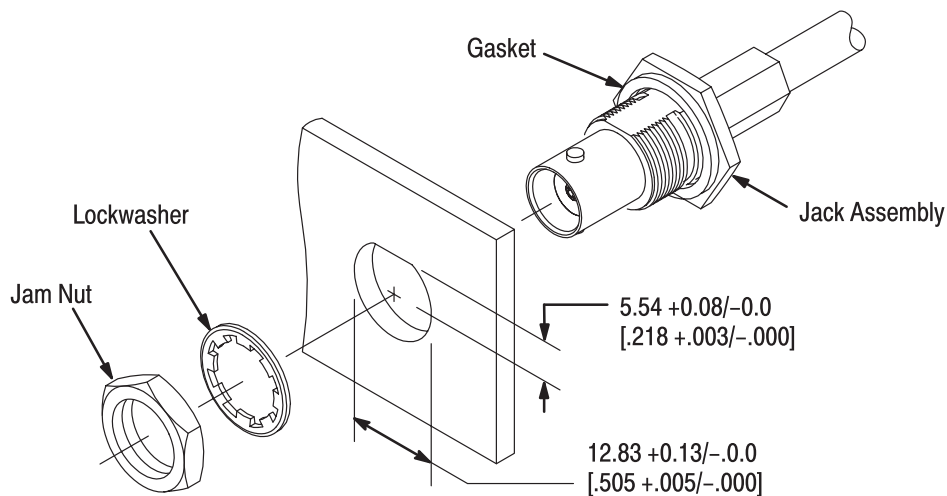

Figure 7
5. Make the panel cutout using the dimensions in Figure 7. Install gasket onto connector assembly; then insert connector through the cutout and secure it with the lockwasher and jam nut.